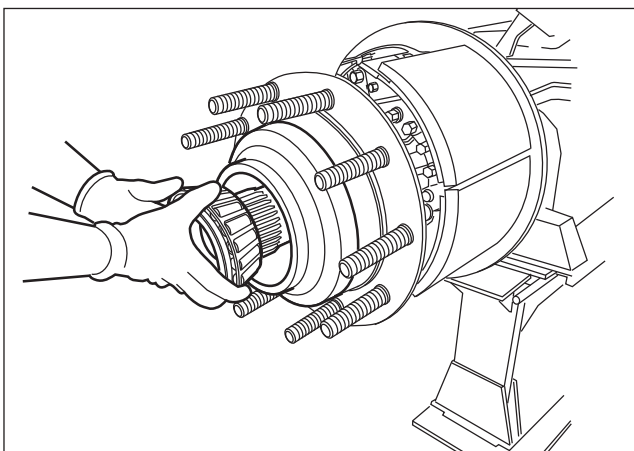

Fig. 3.3
3. Fit the external wheel bearing. Fig.3.3